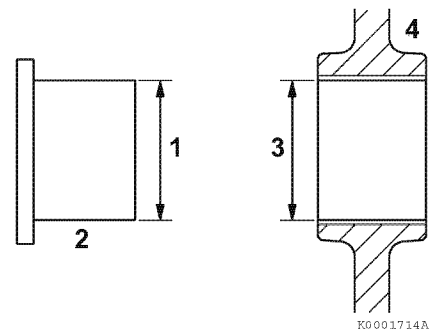

Figure 6-80
1. Measure the outside diameter (Figure 6-80, (1)) of the idler gear shaft (Figure 6-80, (2)). Record the measurements. See Idler Gear Shaft and Bushing on page 6-7 for specifications.
2. Measure the inside diameter (Figure 6-80, (3)) of the idler gear bushing (Figure 6-80, (4)). Record the measurements. See Idler Gear Shaft and Bushing on page 6-7 for specifications.